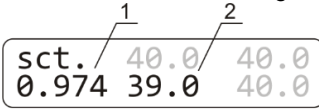

Figure 4. Changing the coefficient:
- 6.4.5 Hold the **RUN/STOP TIME** or **Start Stop** key pressed for more than 8 s to activate calibration mode (figure 4).
- 6.4.6 Using the **▲** and **▼ Temp** or **T (°C)** keys, change the calibration coefficient (fig. 4/1) so that the new temperature value (fig. 4/2) corresponds to the independent sensor temperature. In our example, the calibration coefficient will be 0.974.